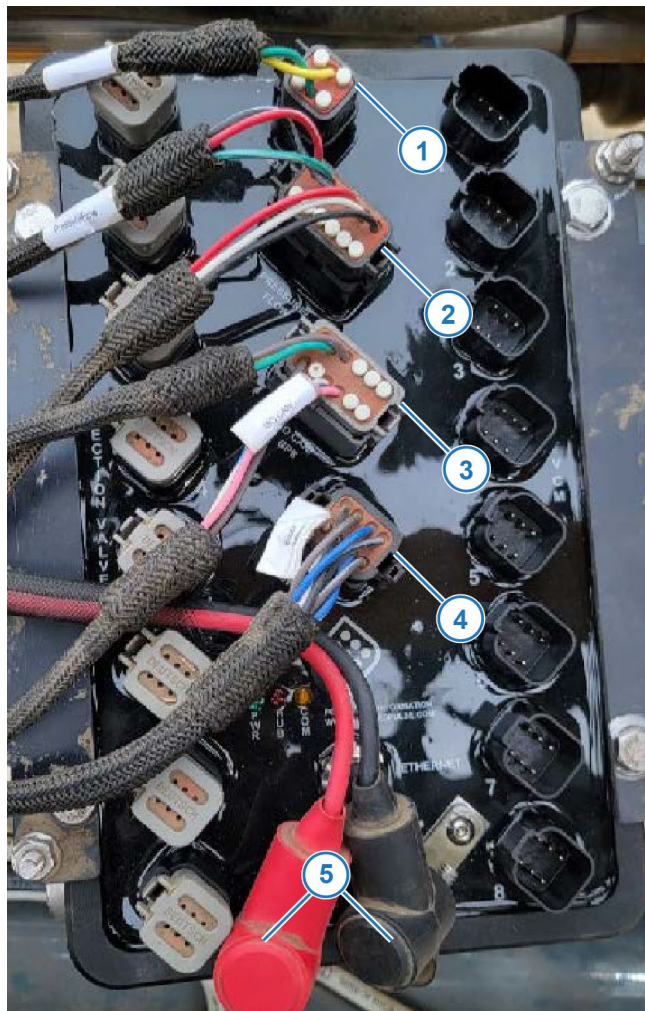

Figure 4 — Chassis Harness-Envelop Hub Connections
3. *Figure 4:* Make the following adapter harness connections at the Envelop Hub, but do not secure at this time.